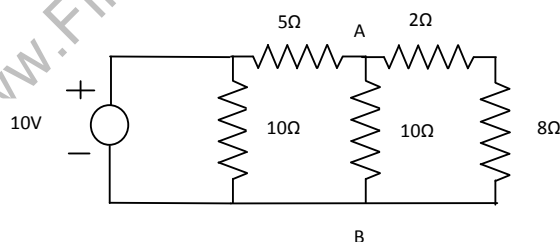

Figure 2(b)
- b) In the circuit shown in figure 2(b), find the current through 8 Ω branch. (6M)